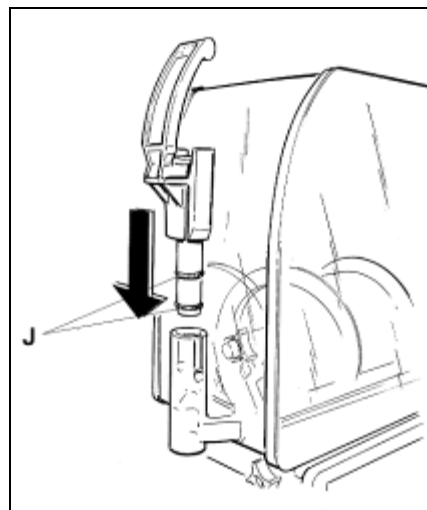

Fig. 11
- **R**eassemble the parts of the dispensing tap, making sure that the gaskets (J) are lubricated with Vaseline grease so that the tap slides smoothly back into its fixed position, until it's completely inserted (see figure 11).